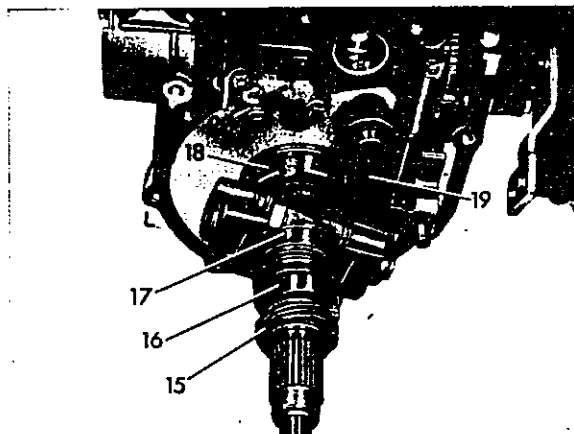

Fig. 9
9 Remove worm gear of speedometer drive (15), eccentric ring for secondary pump (16) and centrifugal governor (17) from output shaft **Fig. 9**
10 Remove parking lock pawl (19) and spring. Pull off parking lock gear (18) from output shaft **Fig. 9**